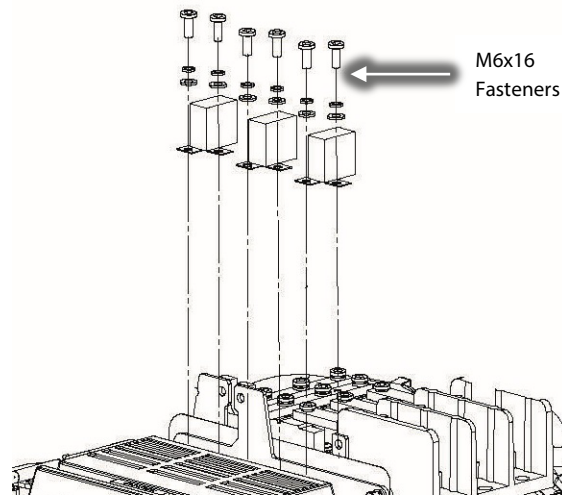

Figure 11 – Snubber Capacitor Removal
23. Disconnect the snubber capacitors from the Inverter noting the leg orientation of one leg is longer than the other. Refer to Figure 11 (Snubber Capacitor Removal).
21. Reconnect the snubber capacitors to the Inverter noting the leg orientation and torque to specification. Starting from the DC Bus Capacitor side, torque to 7 Nm (62 in.lb.). Refer to Figure 11 (Snubber Capacitor Removal).